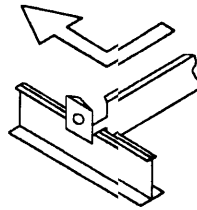

Fig. 1
1. Position the rough-in section, adjust the telescoping channel bars horizontally, and secure to the ceiling structure. Rough-in may be secured by wire, screws or by bending channel end tabs to clamp onto T-bar runners on suspended ceilings. (See Fig. 1)